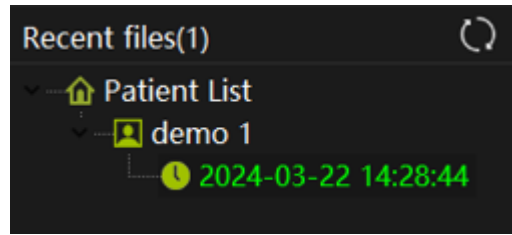

Figure 5.1.4
- 2) When adding an inspection, select the record to be added, as shown in (figure 5.1.4), and click the [new inspection] button to pop up a prompt box, as shown in (figure 5.1.5); In (figure 5.1.5) check "New check" to add a new record: